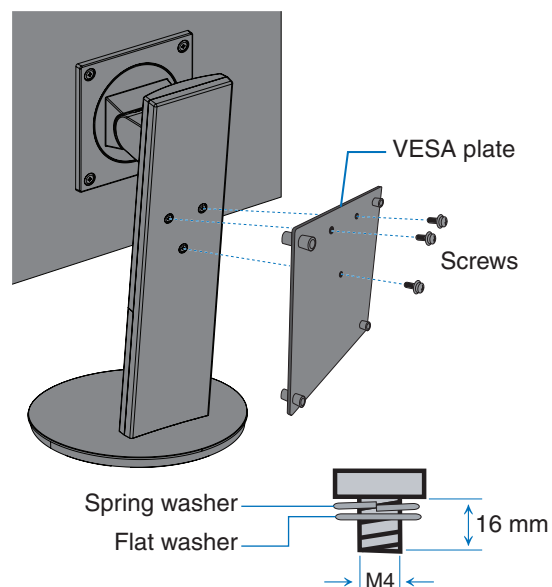

Figure V.1
- Only use the screws that were attached the monitor or the specified screws (**Figure V.1**).